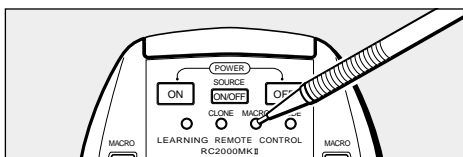

Figure 12
4. Press the **MACRO** ② button with a paper clip tip. The RC2000 Mk II will revert to the normal mode (see Figure 12).